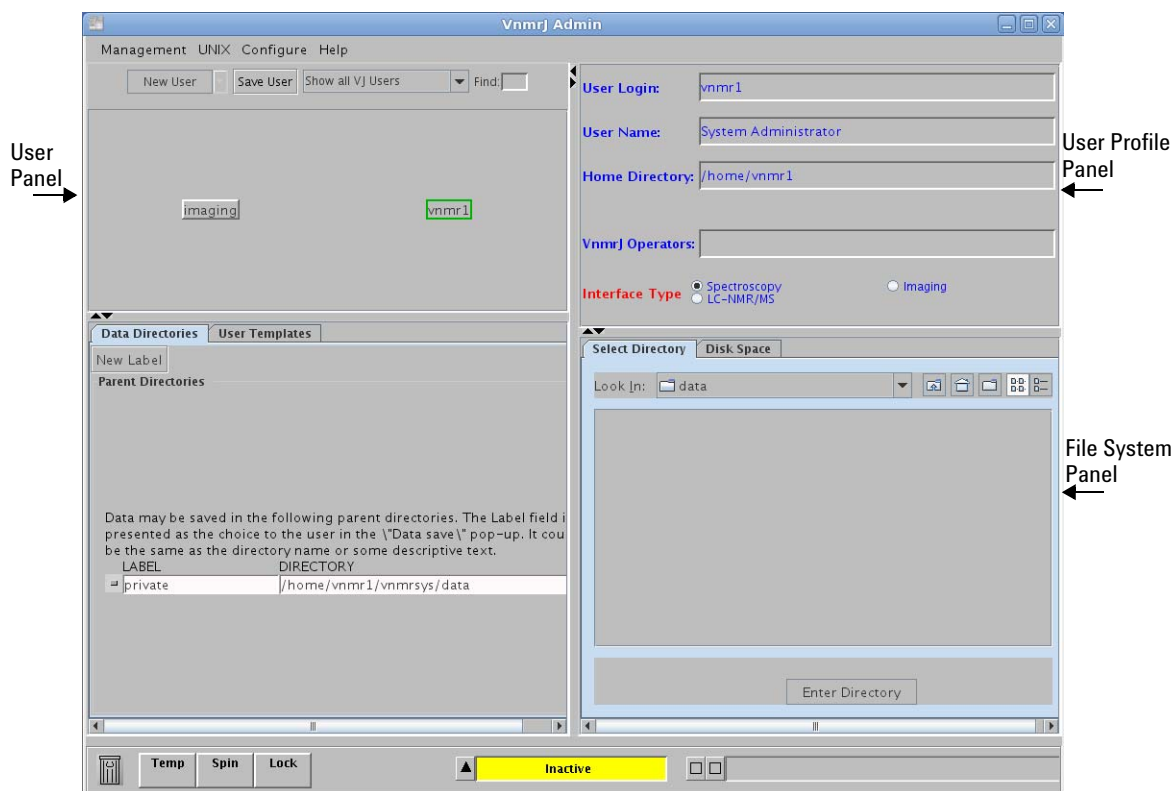

Figure 1 VnmrJ 3.2 administrator window
- 3 If prompted, enter the administrator password to start VnmrJ 3.2 Admin; see Figure 1.
The VnmrJ 3.2 Admin interface provides the tools for administering VnmrJ 3.2 software and user accounts, see Figure 1. Select Administration functions from the menu bar.